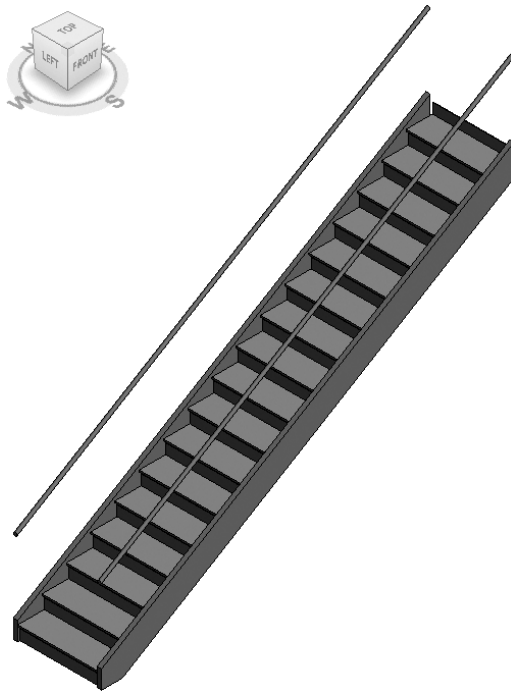

FIGURE 4.7 The resulting stair
3. Close Sketch mode by clicking the green check in the Mode panel . The resulting stair is shown in the default 3D view in Figure 4.7.